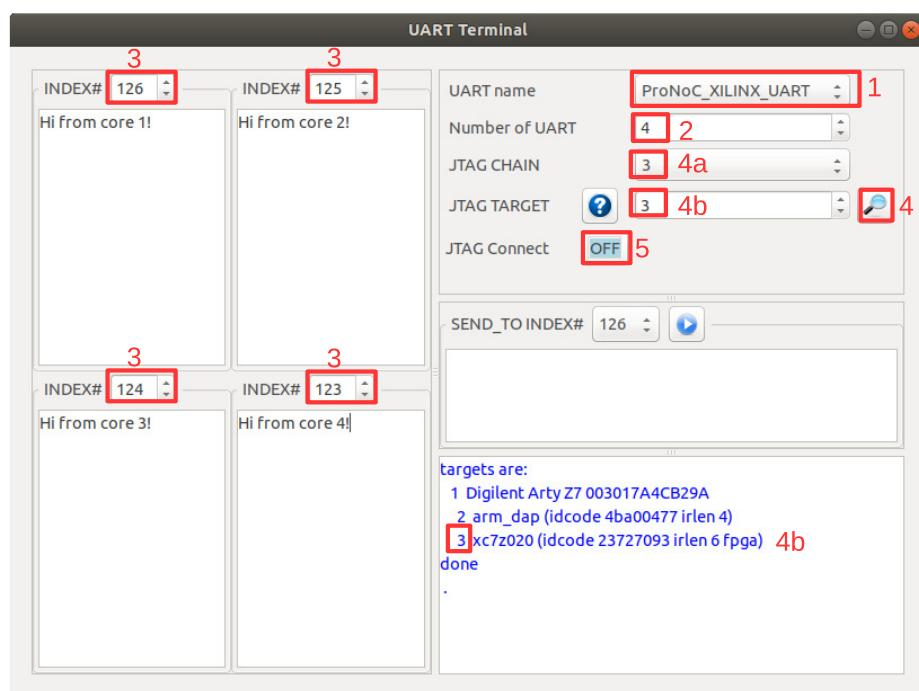

Figure 11.1: Uart terminal snapshot (Xilinx FPGA configuration).
Figure 11.1 illustrates the snapshot of the UART GUI. The following settings are required in order to connect to UART modules:
- (b) For Xilinx FPGAs you need to set the FPGA device target number in the JTAG chain. Figure 11.1 shows an example for Digilent Arty-Z7 XILINX FPGA board. The FPGA device is xc7z020 which is the 3rd target in jtag chain.